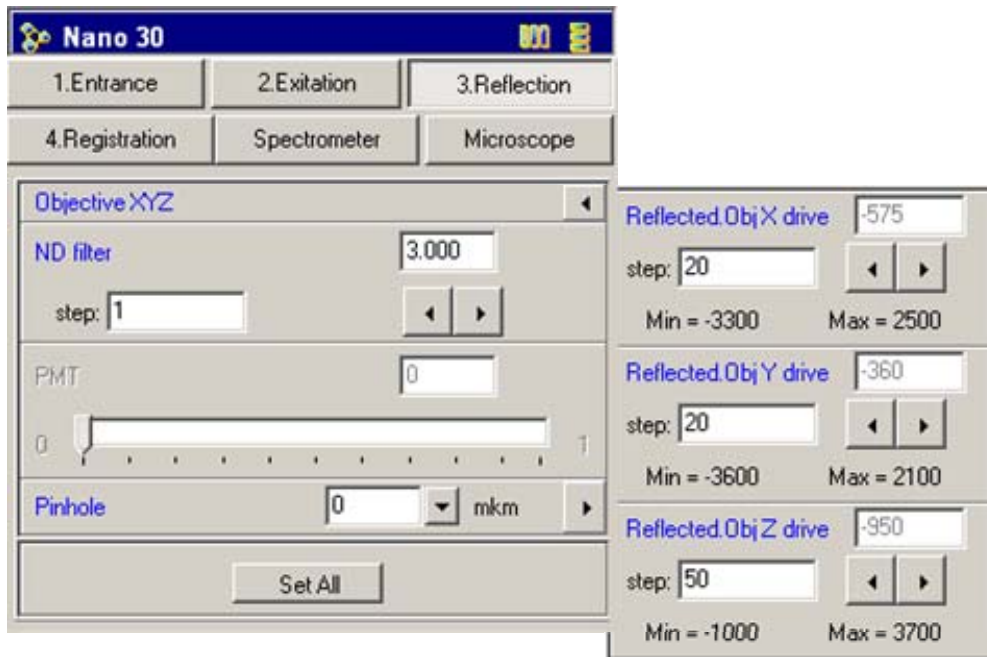

Fig. 12-25. **Reflection** tab with the **Objective XYZ** window opened
- b. Click the  button in the **Objective XYZ** field. This opens an additional window (Fig. 12-25).